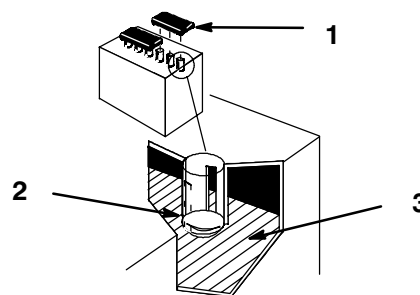

Figure 24
2. Remove the filler caps. If the electrolyte is not up to the lower part of the tube (Fig. 24), add the required amount of distilled water; refer to Adding Water to the Battery, page 28.
2. Remove the filler caps (Fig. 24).
3. Slowly pour distilled water into each battery cell until the level is up to the lower part of the tube (Fig. 24).